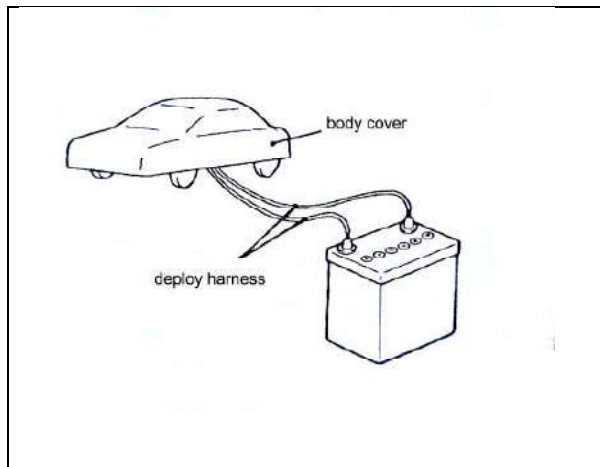

Fig 19-38
- ⑥ Separate the deployment harnesses as far from the vehicle as possible and connect to the terminals of the battery removed from the vehicle, Then deploy. (See fig 19-38)